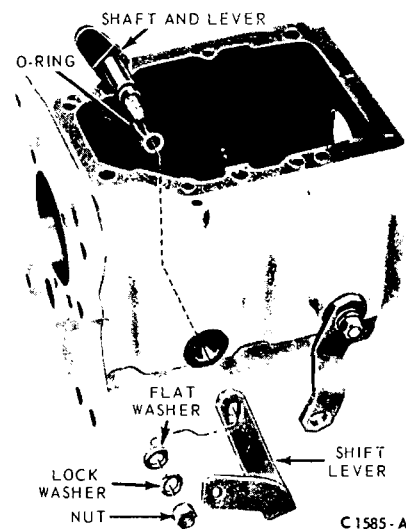

FIG. 15—Shift Lever and Shaft — Disassembled
1. Remove the nut, lock washer and flat washer that secures each shift lever (Fig. 15) to the lever and shaft in the transmission case. Lift